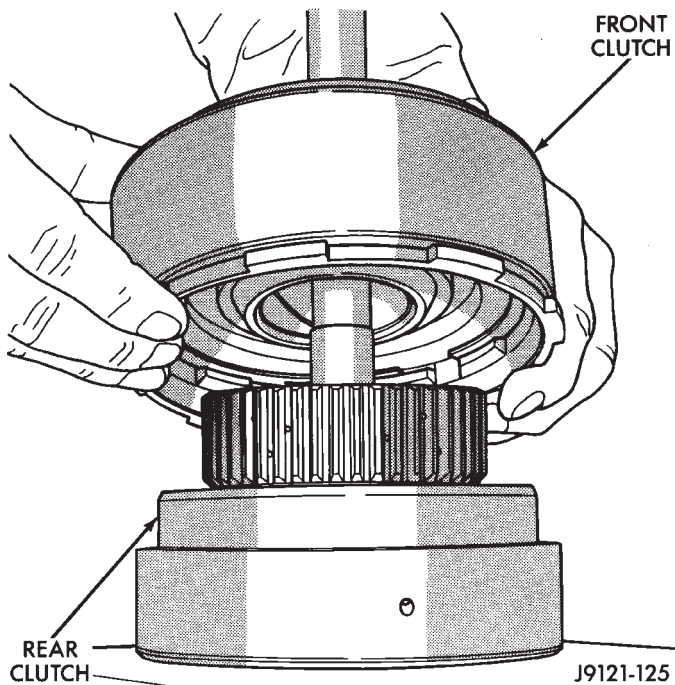

Fig. 80 Separating Front Clutch From Rear Clutch
(19) Lift front clutch off rear clutch (Fig. 80). Set clutch units aside for overhaul.